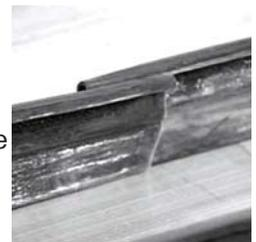

Figure 4
- 5) See **Figure 4**. Where the sections of aluminum rail (1) will meet, cut off only the "t"-shaped portion of the dust guard. The remaining portion of the guard is intended to overlap when the rails are installed.